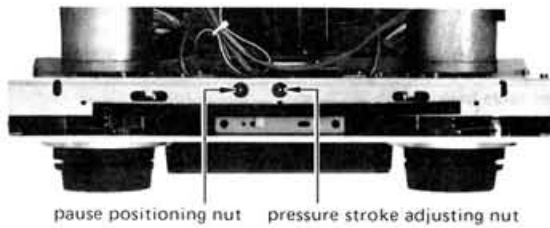

Fig. 2-4 Pause position and pinch roller pressure stroke adjustments
2. Adjust by turning the pressure stroke adj. nut (Fig. 2-4) so that the clearance between the pin and the stopper cushion is about 1.0mm.